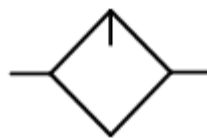

FIG 8.
B. The symbol for a lubricator is shown in Fig 8.